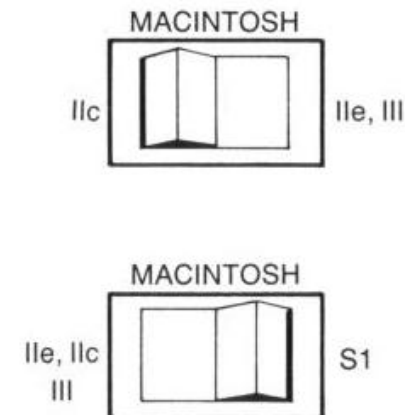

Figure 2-12. Rocker Switch Settings (Apple //e)
20. Set the rocker switches on the back of the QC hard disk so that both are in the //e position as in Figure 2-12.